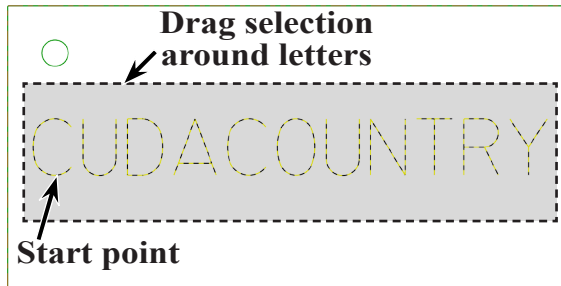

Fig. 6
Step 5. Drag a selection around letters, **Fig. 6**.
Step 6. Click **first letter** for **Approximate Start Point**, **Fig. 6**.